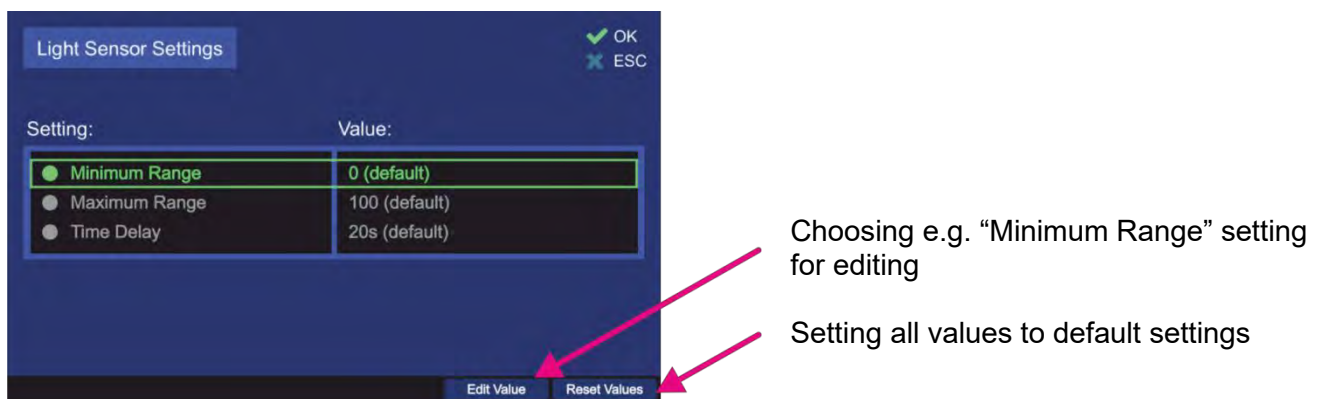

Figure 83. Light sensor settings
- Leaving the top level dialog (s. Figure 83) always press “OK” for the second time (after confirming the actual setting), otherwise, the changed settings will not be adopted.